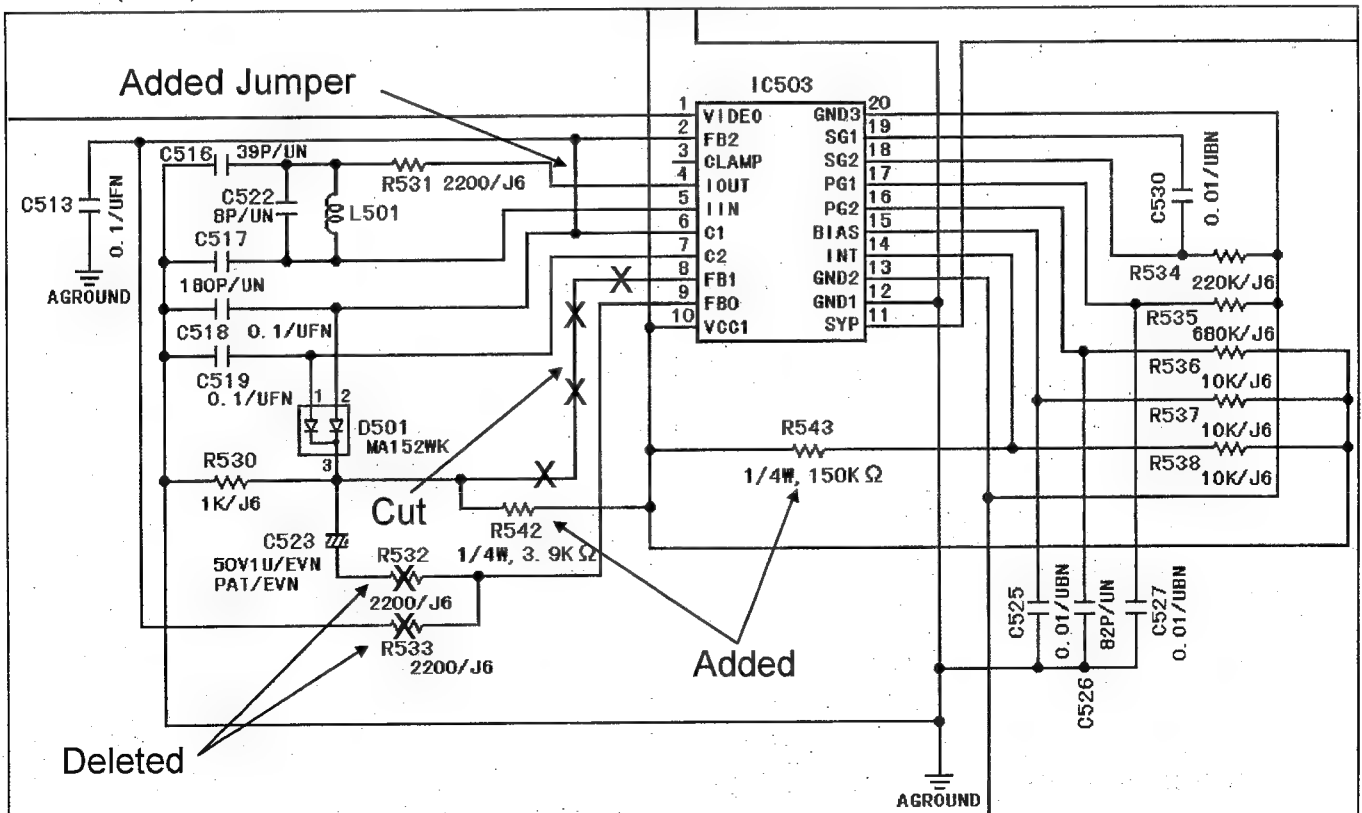

Fig. 4 Page 2-94
- 4). Add a resistor R542 (1/4W, 3.9K $\Omega$ ) between pin #10 of IC503 and cathode of D501 on the foil side as shown in figures 4 and 6.
- 5). Add a resistor R543 (1/4W, 150K $\Omega$ ) between pins #10 and #14 of IC503 on the foil side as shown in figures 4 and 6.
- 7). Connect a jumper wire between pins #2 and #6 of IC503 on the foil side as shown in figures 4 and 6.
- 4). Add a resistor R542 (1/4W, 3.9K $\Omega$ ) between pin #10 of IC503 and cathode of D501 on the foil side as shown in figures 4 and 9.
- 5). Connect a jumper wire between pins #2 and #6 of IC503 on the foil side as shown in figures 4 and 9.